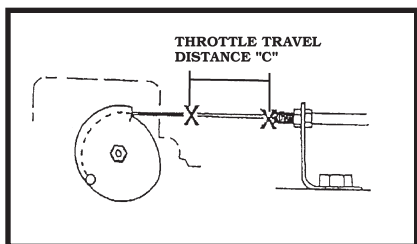

Figure 6
- C. Measure the Distance "C" between the two marks. **Figure 6** If the distance is greater than **41mm (1-5/8")**, go to **Page 11**; If it is less, go to **Step D**.